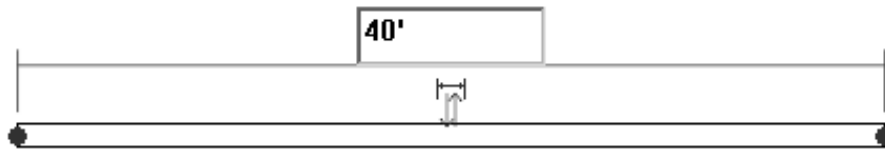

Figure 3-30 Modifying the length of a wall segment using temporary dimensions
2. Enter 40'0" in the edit box, as shown in Figure 3-30 and then press ENTER; the length of the wall is modified to 40'0". Press ESC to exit the **Modify | Walls** tab.